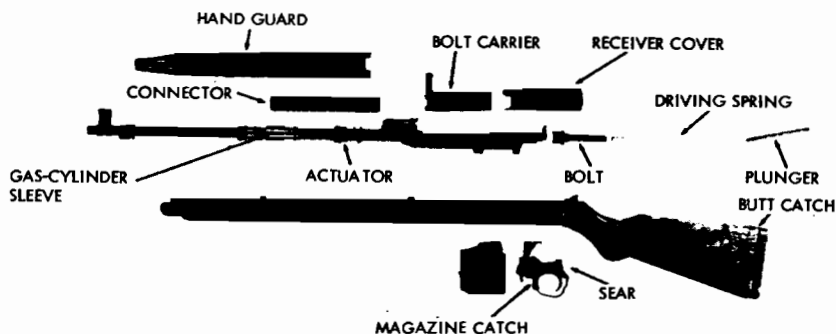

Figure 47. Vzr 52 semiautomatic rifle, field-stripped.
b. Force the receiver cover (fig. 47) forward as far as possible; press in on the plunger protruding from the rear of the cover and lift the cover straight up and off the receiver. Ease the plunger and the driving spring to the rear and upward, and remove them. Caution: Keep the strong driving spring under control.
h. Hold the gas-cylinder sleeve (fig. 47) in place and force the connector (fig. 47) as far to the rear as possible until it can be lifted away from the gas-cylinder sleeve.
Pull the connector forward out of the actuator (fig. 47). The gas-cylinder sleeve can be moved to the rear for cleaning.
a. The Vzor 52 and Vzor 52/57 rifles are identical in their functioning. The rifles are gas operated; however, they employ an unusual concentric gas cylinder which surrounds the barrel. The gas mechanism is composed of a bearing mounted on the barrel, with a gas port drilled through it into the barrel. A sliding gas-cylinder sleeve is positioned over the bearing and is connected to the actuator by means of a sheet-steel connector (fig. 47).
b. When the rifle is loaded and cocked, pressure on the trigger releases the hammer, which impacts against the firing pin, firing the rifle. The propellant gases drive the bullet through the barrel, and, after the bullet passes the gas port, some of the gases are tapped off and expand between the rear of the barrel bearing and the gas-cylinder sleeve. The sleeve is forced to the rear, and this motion is transmitted through the connector to the actuator. The actuator, by means of projections that pass through the sides of the receiver, forces the bolt carrier rearward. This movement of the carrier compresses the driving spring and rocks the hammer to the rear. As the carrier continues rearward, cams on the inner sides of the carrier, mating with lugs on the bolt, lift the front end of the bolt out of its locking recess in the receiver. When the bolt is completely unlocked, it and the carrier travel to the rear as one unit. The actuator, connector, and gas-cylinder sleeve are returned forward by a spring pressing against the actuator (fig. 47).
g. The recoiling bolt carrier forces the hammer back to its cocked position. The sear (fig. 47) which, because of the trigger rotation, has moved forward, is pushed back against its spring as the rear hammer hooks pass. When the rear hooks completely pass the sear, it snaps back into position, and, as the bolt counterrecoils, the sear engages the hammer and holds it to the rear. When the trigger is released, the sear moves to the rear and releases the hammer; however, as the front trigger hooks have now moved to the rear, they intercept the hammer and hold it cocked. The trigger must be pressed again to fire another shot.
a. The accessories used with the Vzor 52 and Vzor 52/57 rifles are carried in recesses in the butt and are removed by depressing the butt catch (fig. 47) and removing the buttplate. The accessories are:
- (1) 3-piece sectional cleaning rod.
- (2) Bore brush.
- (3) Oil bottle.
- (4) Breech shield.